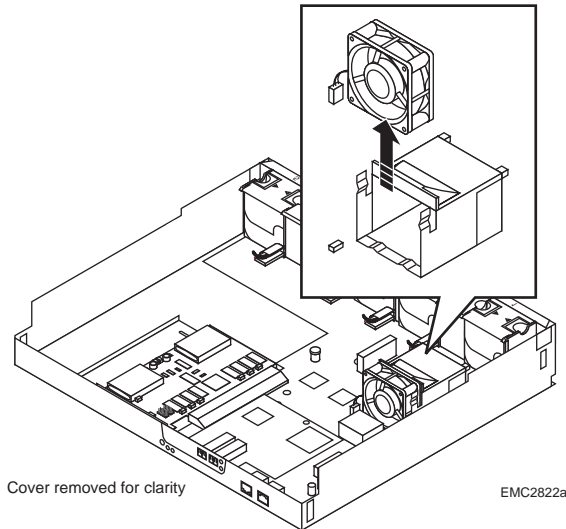

FIGURE 23. Removing the CPU Fan from the Motherboard
- b.** Pull the fan straight up, out of the connector, and away from the motherboard (Figure 23).